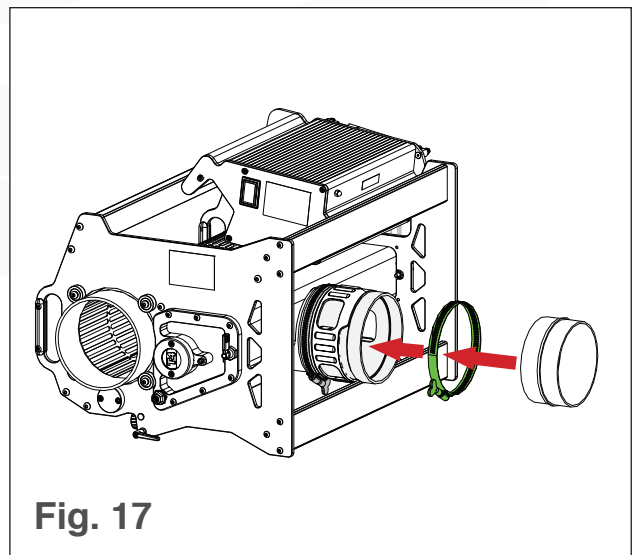

Fig. 17
5. Place another hose clamp over the free end of the coupling (see Fig. 17).
6. Slide the coupling adapter into the vacuum attachment coupling (see Fig. 17).